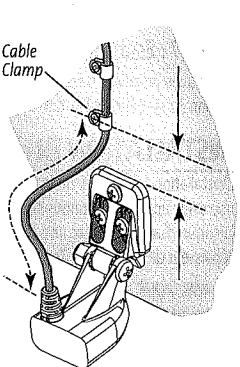

Figure 18
- 2b. If you will be routing the cable through a hole in the transom, drill a 5/8" diameter (16 mm) hole above the waterline (Figure 18). Route the cable through this hole, then fill the hole with marine-grade silicone sealant and proceed to the next step immediately.
- If you will be routing the cable through a hole in the transom, drill a ¾" diameter (16 mm) hole above the waterline (Figure 18). Route the cable through this hole, then fill the hole with marine-grade silicone sealant and proceed to the next step immediately.